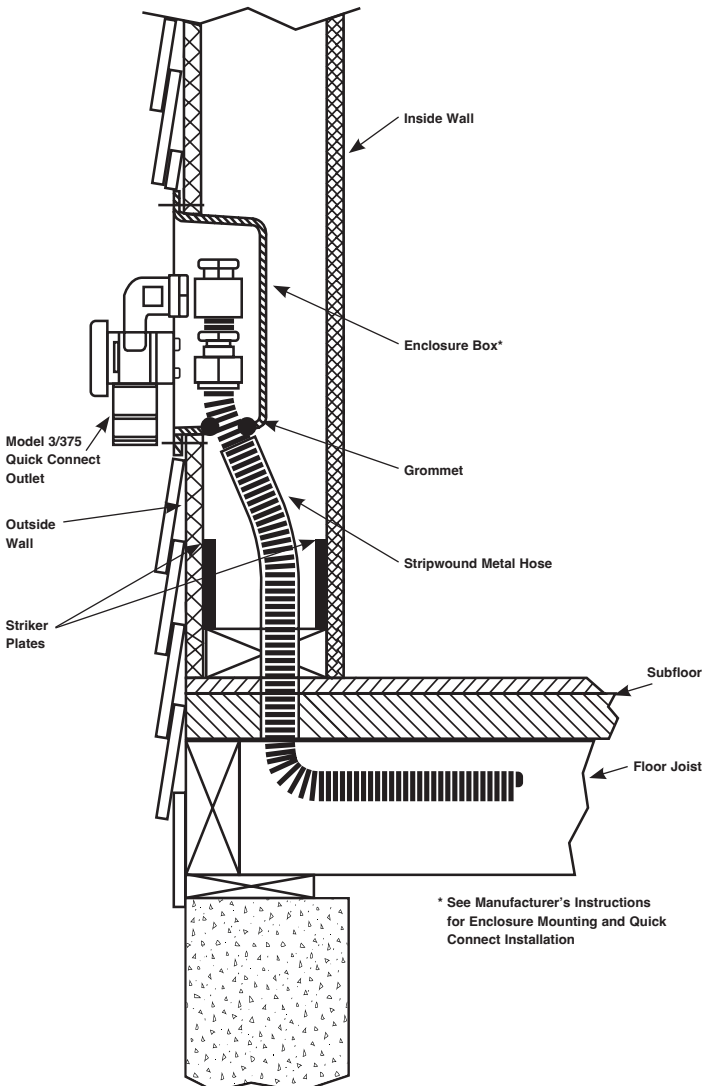

Figure: 4-41
1. Movable grills shall be connected using an approved outdoor appliance connector which shall be attached to the flexible piping system at either a termination mount fitting, a transition to a steel nipple, or a quick-connect device such as the M. B. Sturgis Model 3/375 shown in **Figure 4-41**. The quick-connect outlet shall be installed in accordance with manufacturer's instructions.